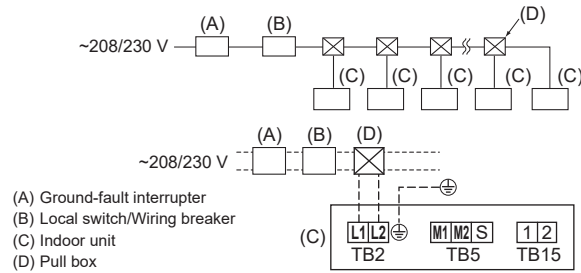

Fig. 6-5
6.2. Power supply wiring (Fig. 6-5)